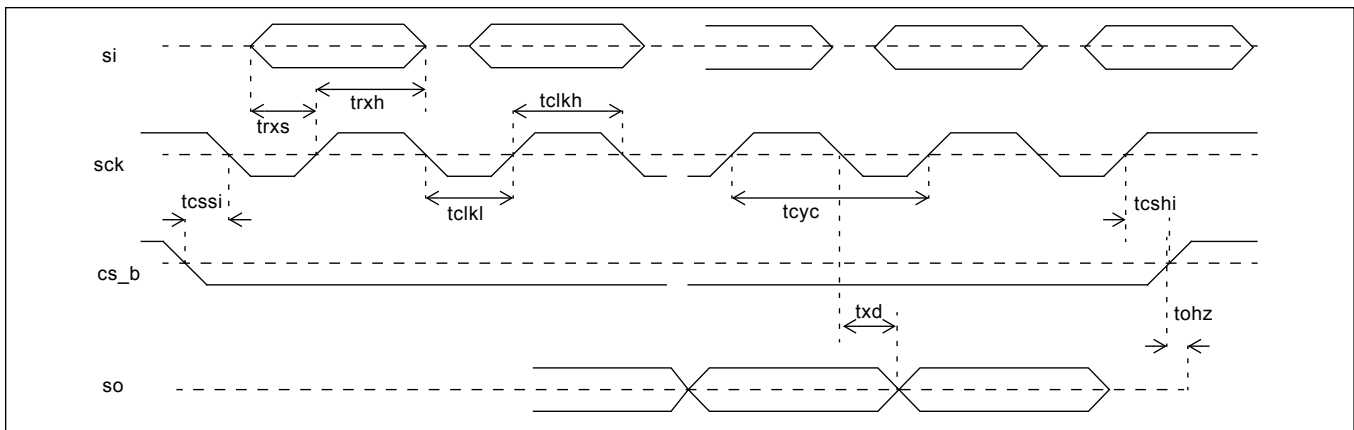

**Figure 41 - SONET Output Frame Pulse Timing**
**AC Electrical Characteristics\* - SONET Output Frame Pulse Timing (See Figure 41).**